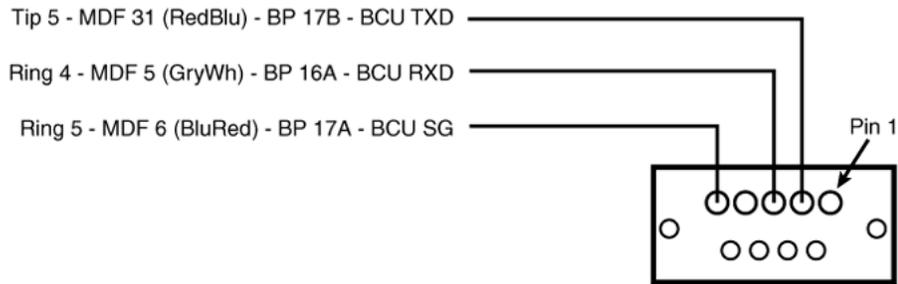

Figure 221: DMC8 debug port connections
Figure 221: DMC8 debug port connections on page 329 shows the DMC connected to a PC as DCE. To connect to a modem, the DMC has to act as DTE (because the modem is DCE). This is achieved in one of two ways:
1. Cross the TX and RX of the connections shown in Figure 221: DMC8 debug port connections on page 329 (that is, swap pins 2 and 3 of the DB-9 cable).